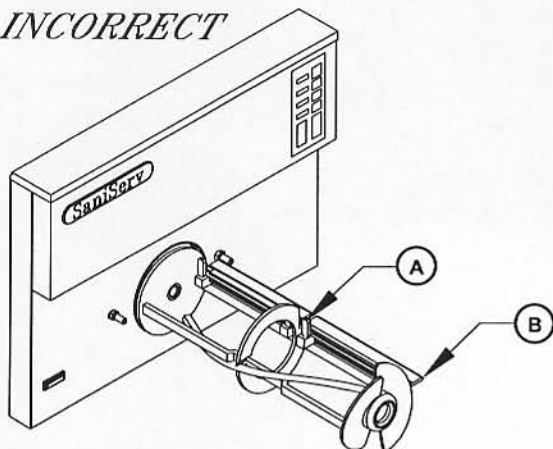
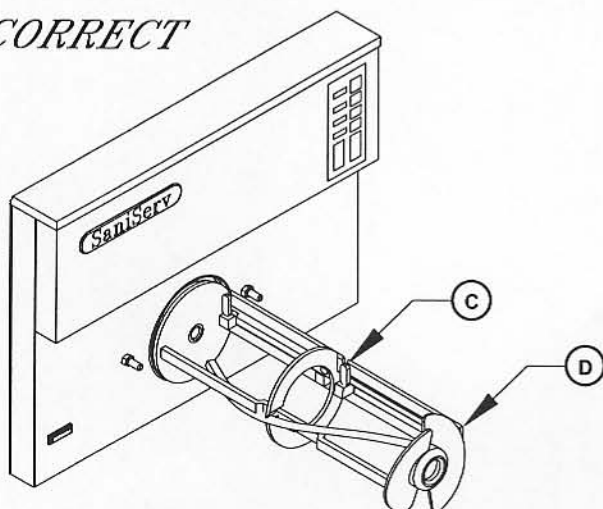

Fig. 26a
Fig. 26c
e. With the Auto/Cleanout switch set to the "OFF" position, insert the dasher assembly into the freezing cylinder as far as possible being careful not to damage the scraper blades. Damage will occur to the scraper blades and the machine will not operate properly if the scraper blades are installed facing in a clockwise direction - item "B" Figs. 26a, 26b.
The blades must rest against the tab - item "A". Proper blade installation is shown in Figs. 26c and 26d with the blades pointing in a counter clockwise direction - item "D" and resting upon the tab - item "C".
Note: The stator rod has not been displayed in Fig. 26a and Fig. 26c for clarity only. The stator rod **MUST** be installed for proper machine operation.